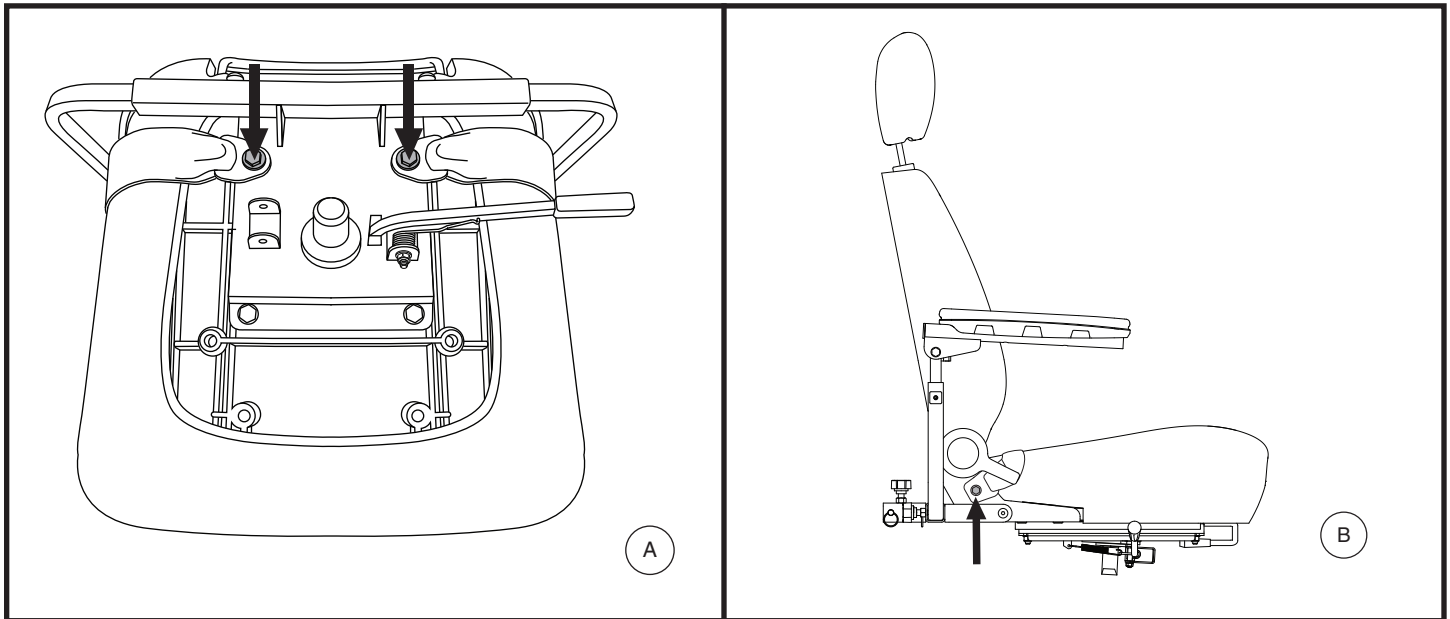

Figure 23. Positioning Belt Bolts
Your scooter seat may be equipped with a positioning belt that can be adjusted for operator comfort. **See figure 23.** The positioning belt is designed to help support the operator so that he or she does not slide down or forward in the seat. The positioning belt is not designed for use as a restraining device.
2. Place the seat upside down so that you can see the bottom of the seat base. See figure 23.